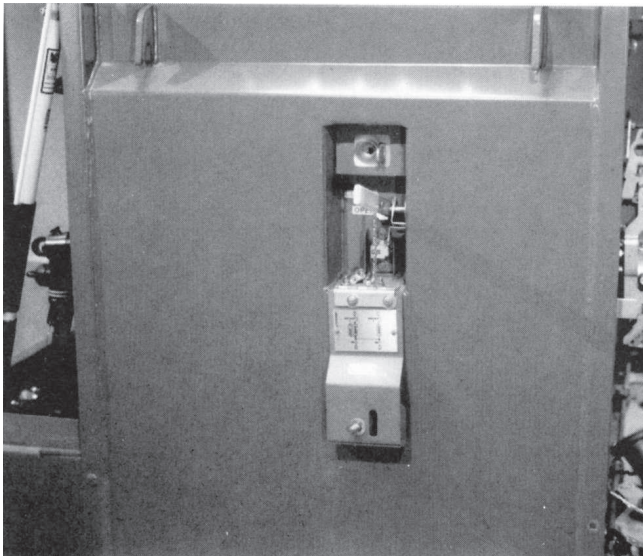

Figure 4. De-energized cables.
- Open switches at both ends of the cable to be isolated. Refer to Figure 4.